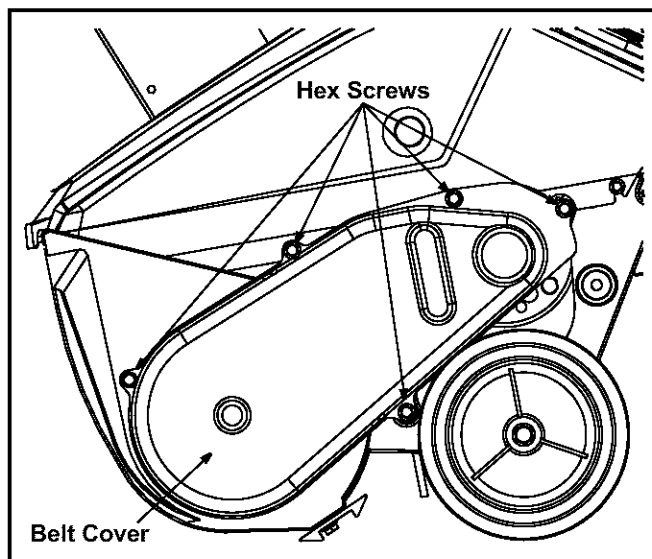

Figure 8
- Remove the belt cover from the left side of the snow thrower's auger housing by unthreading the five hex screws which secure it in place. See Figure 8.
- Remove the belt cover from the left side of the snow thrower's auger housing by unthreading the five hex screws which secure it in place. Refer to Figure 8.